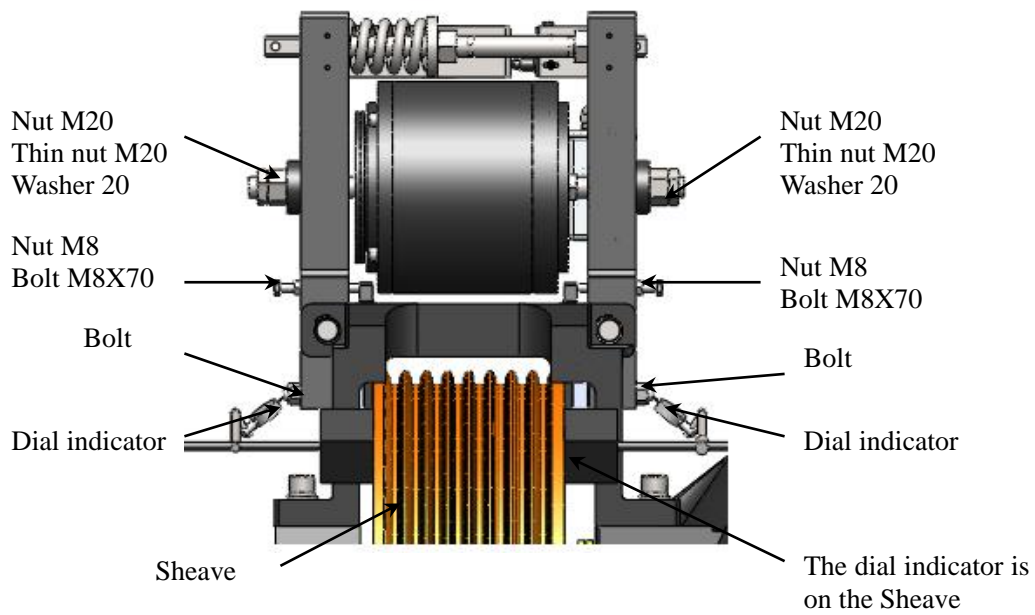

Figure 16 Emergency Brake Adjustment
2. If the gap is too big loosen (1/6th of a turn at a time) the thin nut M20 and nut M20 with an open end wrench 30 mm counter-clockwise to reduce it. See Figure 16. Otherwise tighten (1/6th of a turn at a time) the nut M20 clockwise to increase it.
3. Attach two (2) dial indicators to the side of the drive sheave with the gauge head touching brake arm part I on one side and brake arm part II on the other side. See the Figure 16.
Note: The dial indicators must be attached to the sheave as shown in Figure 16.